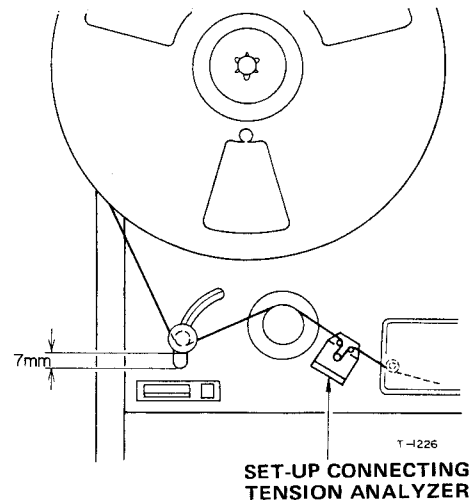

Fig. 7-5 Set-up Connecting Tension Analyzer
2. Attach the tension analyzer as shown in Fig. 7-5.
4. Check that the left tension guide (arm) is positioned approx. 7 mm above its fully down (lowest) position as shown in Fig. 7-5.